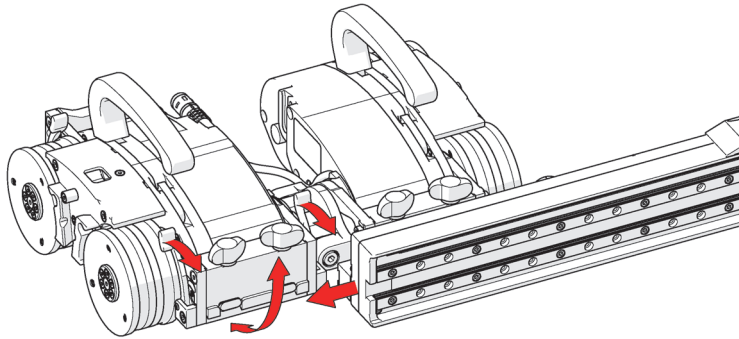

Figure 2-38 Properly mounted raster arm
2. Release the swivel mount levers, and pivot the swivel mount to align with the mounting rail of the raster arm. Slide the raster arm onto the remaining module's swivel mount, and tighten all four black wing knobs (see Figure 2-38 on page 81).